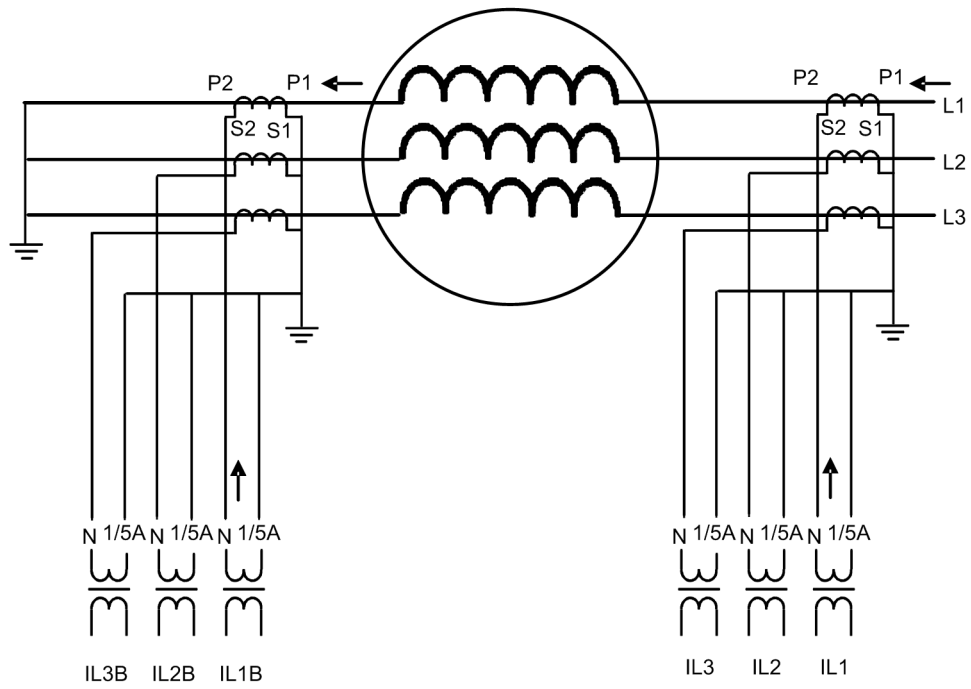

Figure 262: Connection of current transformer of Type 2, example 1
- If the positive directions of the winding 1 and winding 2 protection relay currents equate, the *CT connection type* setting parameter is "Type 2". The connection examples of "Type 2" are as shown in figures Figure 262 and Figure 263.